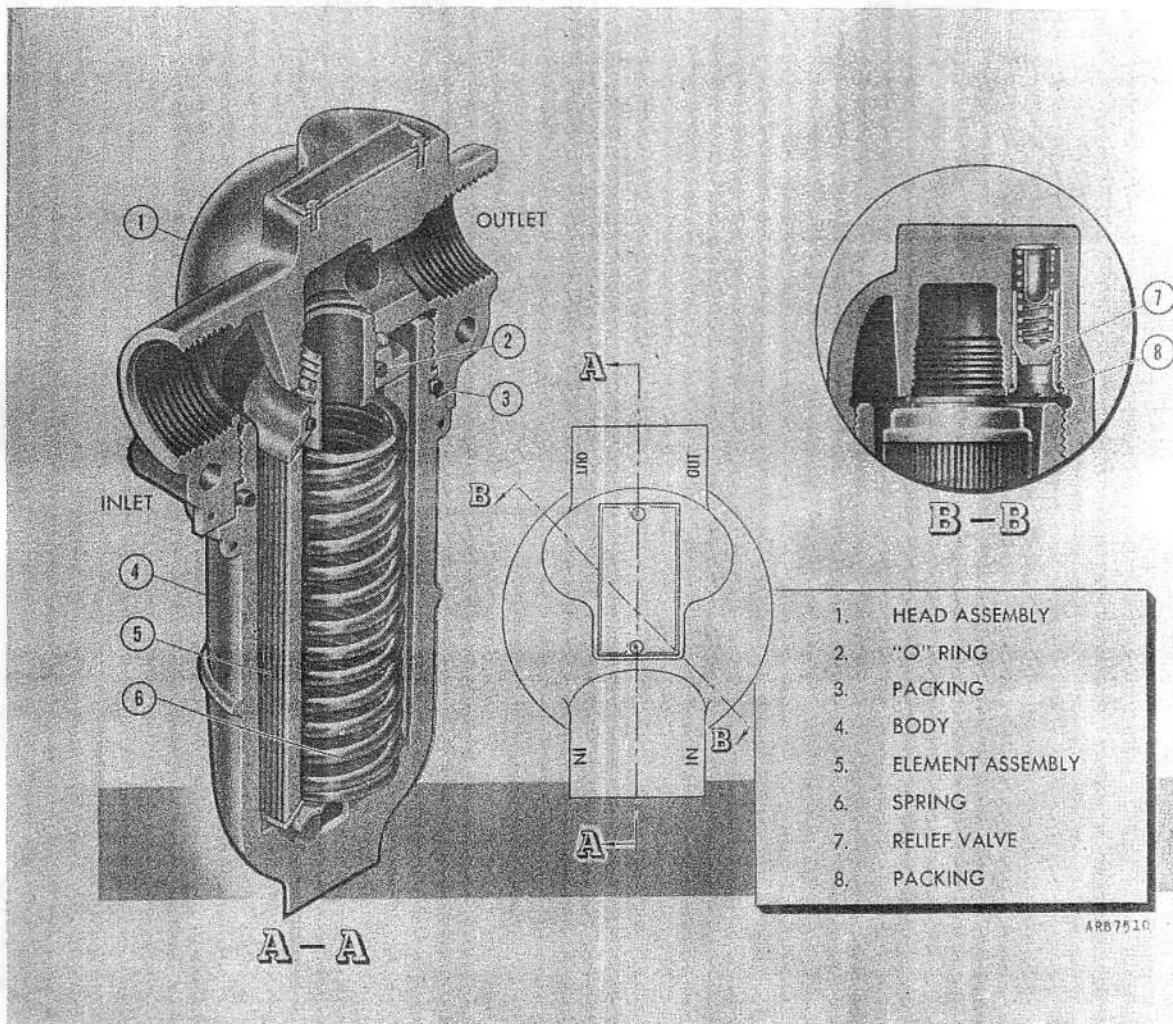

Figure 113 — High Pressure Fuel Filter
(11) HIGH PRESSURE FILTER. (See figure 113.)